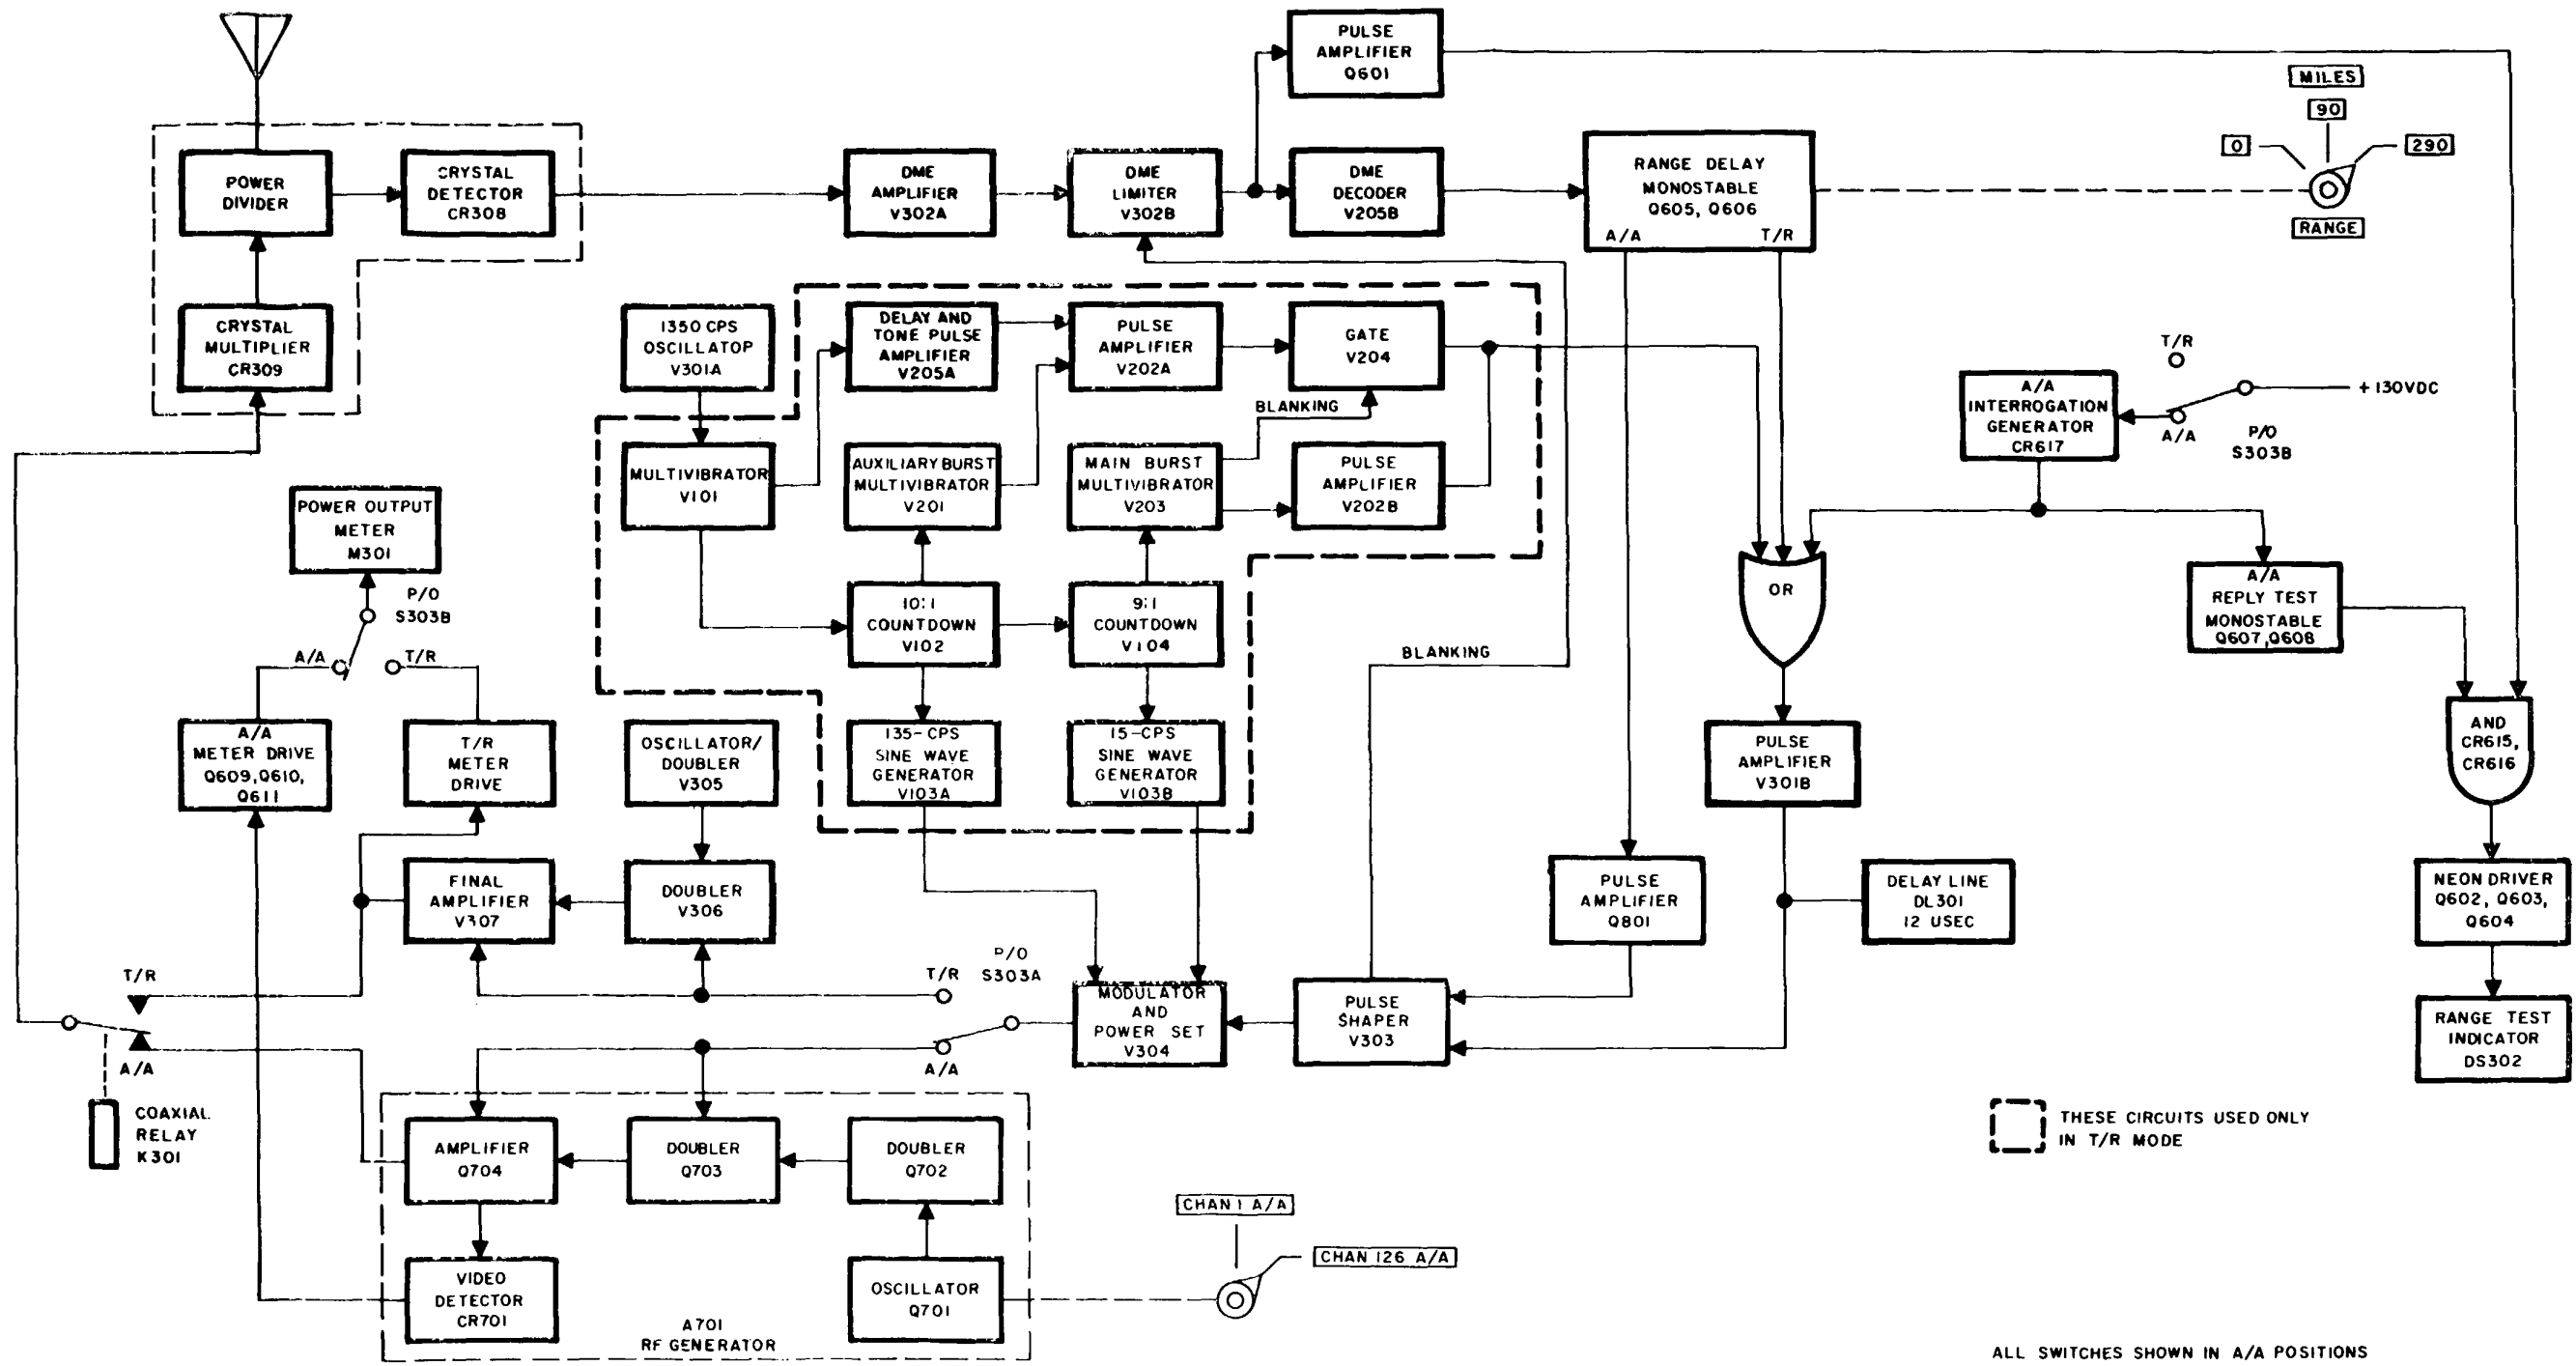
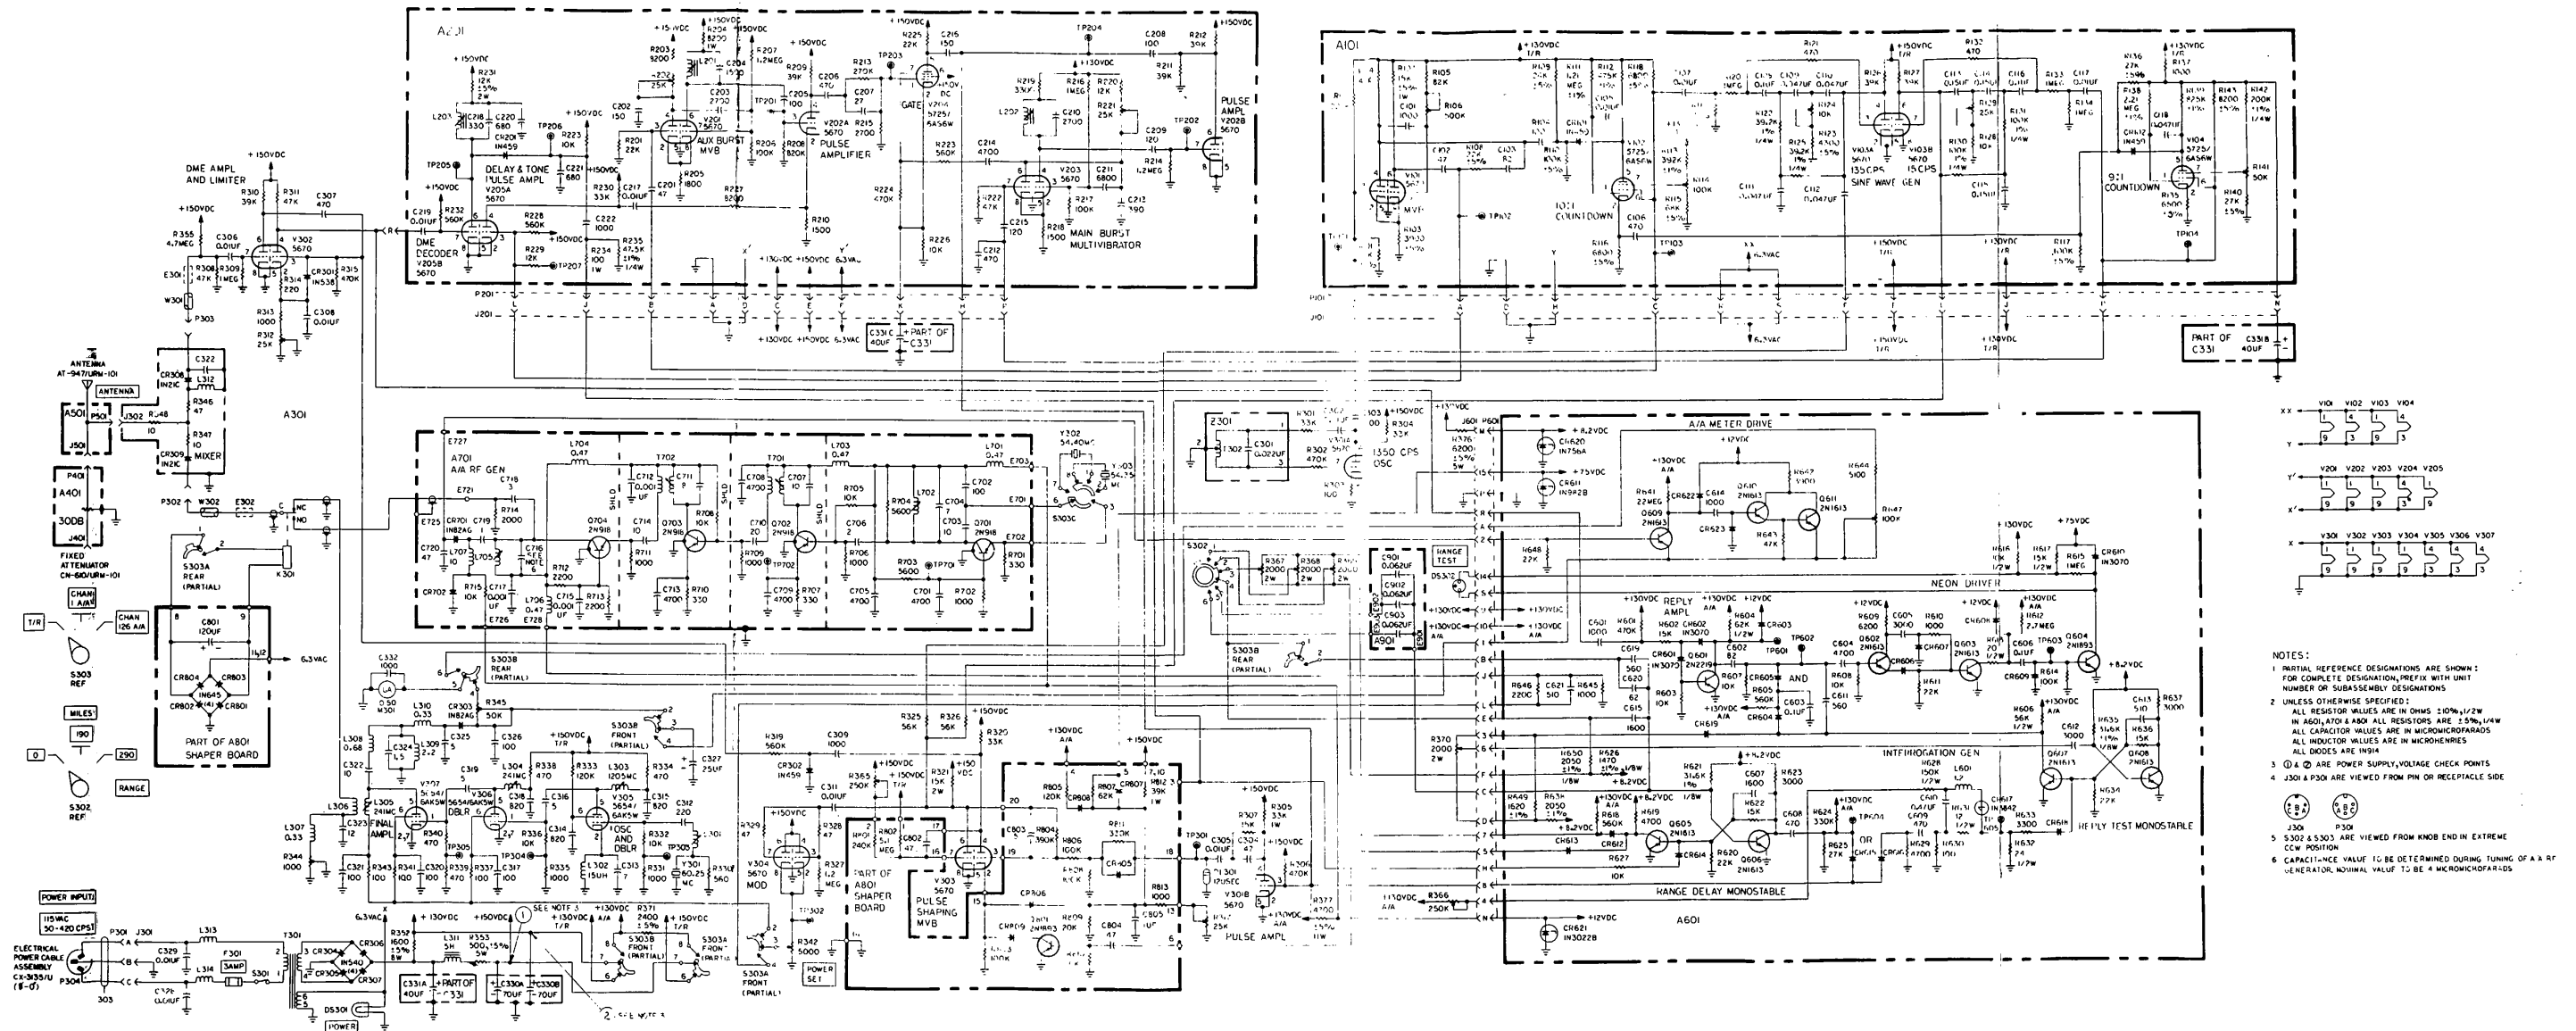

Figure 1-2. Radio Test Set AN/URM-101B, Functional Block Diagram
Figure 1-3. Radio Test Set AN/URM-101B, Schematic Diagram
**1-14.** The following paragraphs discuss the general principles of operation by stage functions, and these functions are grouped under sections for quick comprehension. When in the T/R mode, power to the A/A interrogation generator CR617 is removed; therefore, no interrogation pulses are produced. The order of these stages is outlined according to the block diagram in figure 1-2, and the principles of operation of these stages and their associated circuitry are sequenced with the overall schematic diagram in figure 1-3. Refer to these diagrams throughout the remainder of the discussions.
and to the schematic diagram, figure 1-3, throughout the procedures of table 6-4.
**6-6.** The test set is provided with test points on printed circuit boards, Assembly A101 and Assembly A201, and the receiver transmitter chassis. These test points provide minimum indications of the performance of a stage, circuit or assembly. Table 6-2 shows voltage waveforms. The "Trouble" column of the troubleshooting chart is referenced to table 6-2 to aid in identifying troubles. The test points are identified in figures 7-1 through 7-3, and the schematic diagram, figure 1-3.